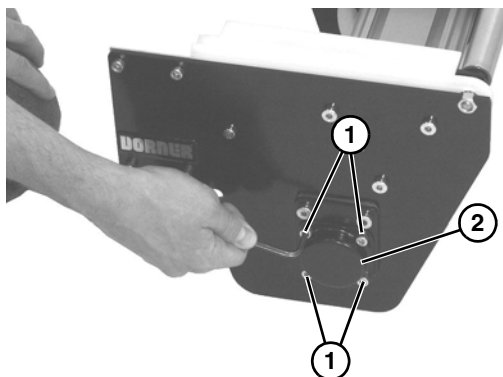

Figure 27
6. On right side, remove four socket head screws (**Figure 27, item 1**) and cover (**Figure 27, item 2**).